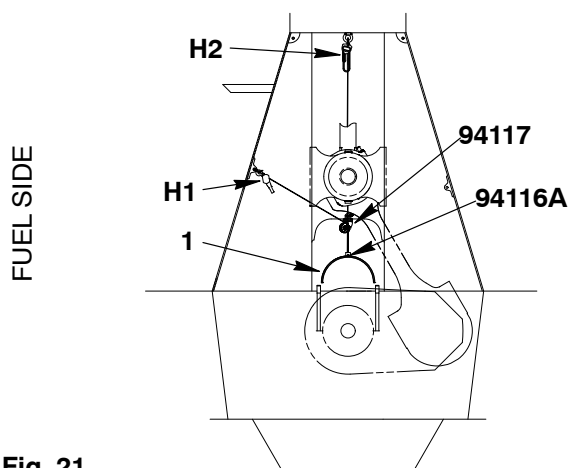

Fig. 21
14) Operate the manual ratchet (H1, Fig. 21) and the lifting tool (94116A) to lift the bearing shell (1).